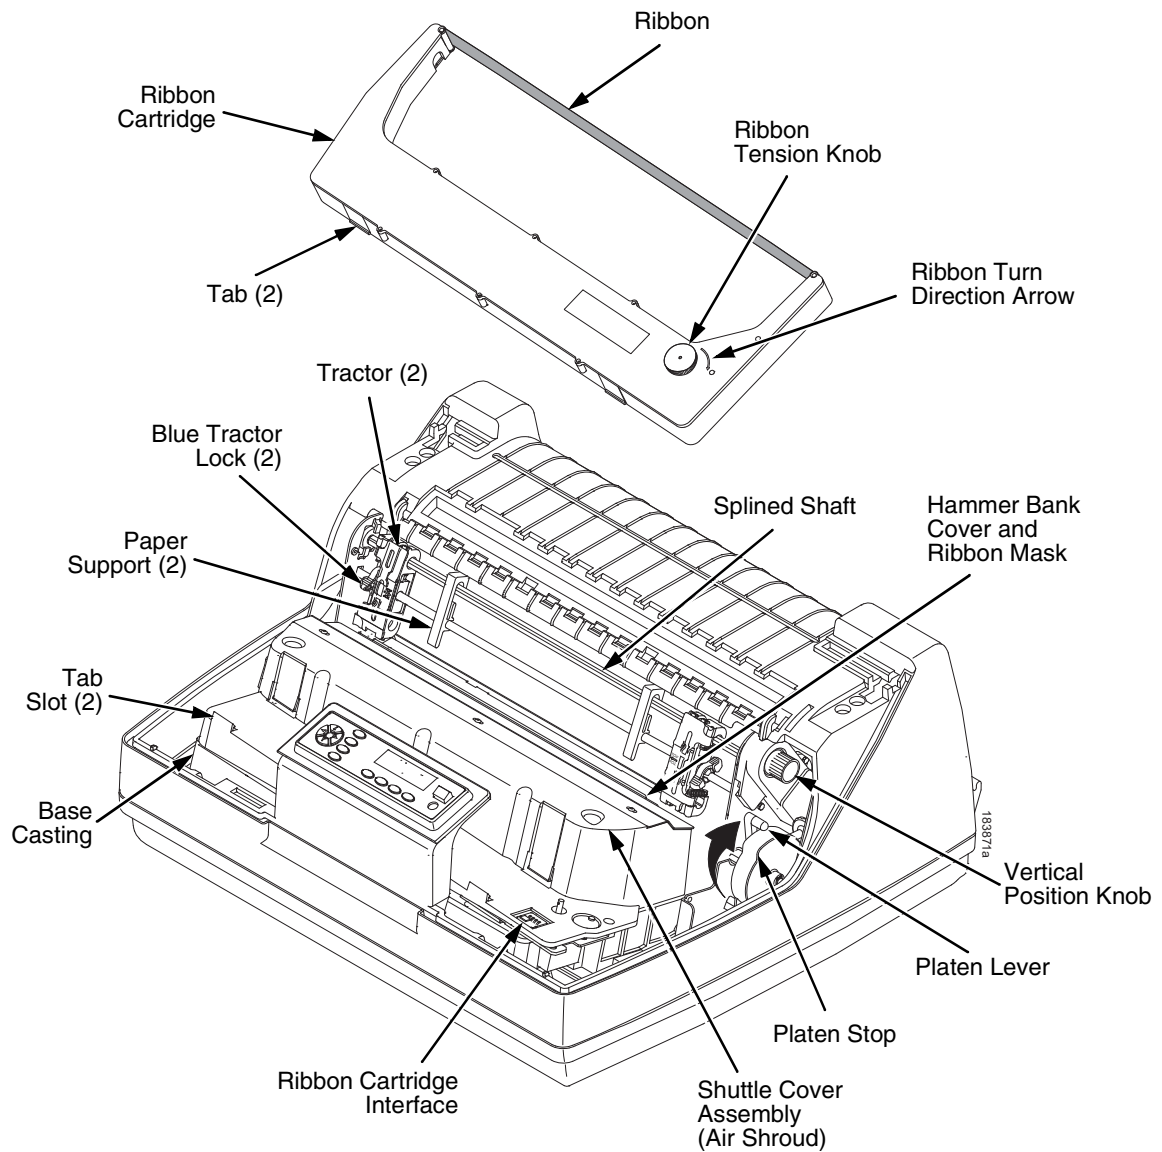

Figure 5. Printer Interior Components
7. Brush the paper dust and ribbon lint off the tractors, shuttle cover assembly, and base casting with a soft-bristled, non-metallic brush (such as a toothbrush). Vacuum up the residue. (See Figure 5.)